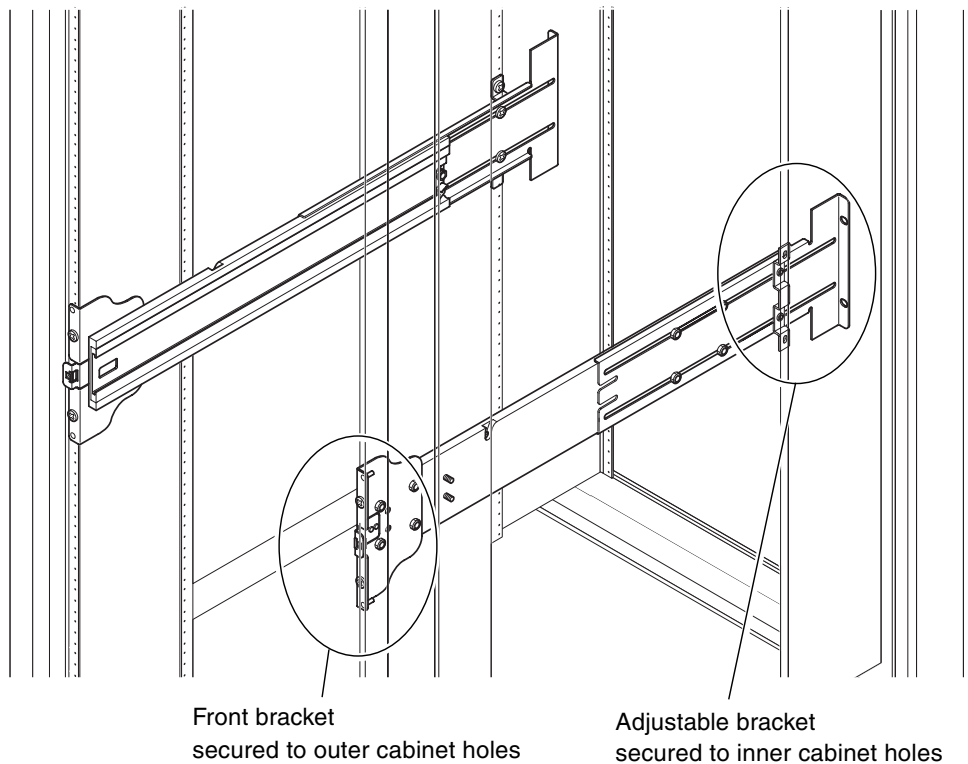

FIGURE 1-4 Installing the Rails in a Sun Fire Cabinet
1. Insert the pins in the front bracket into cabinet holes 22 and 33 (FIGURE 1-4).
1. Insert the pins in the front bracket into cabinet holes 58 and 69 (FIGURE 1-4). The pins will hold the bracket in place until it is secured.